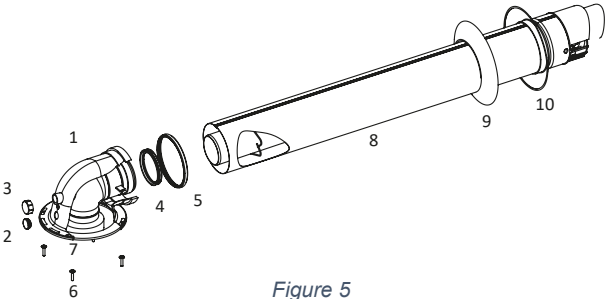

Figure 5
- The hermetic flue set is delivered in a carton box separate from the unit. The standard hermetic flue set (Ø 60/100 or Ø 80/125) consists of the following components (Figure 5).